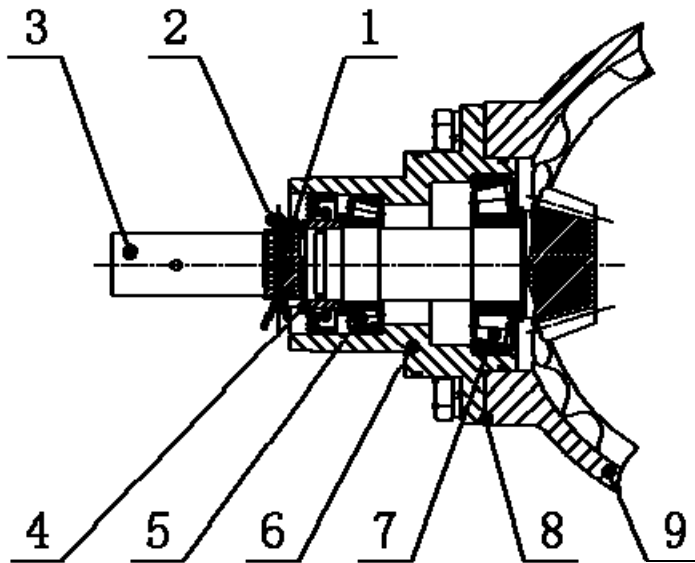
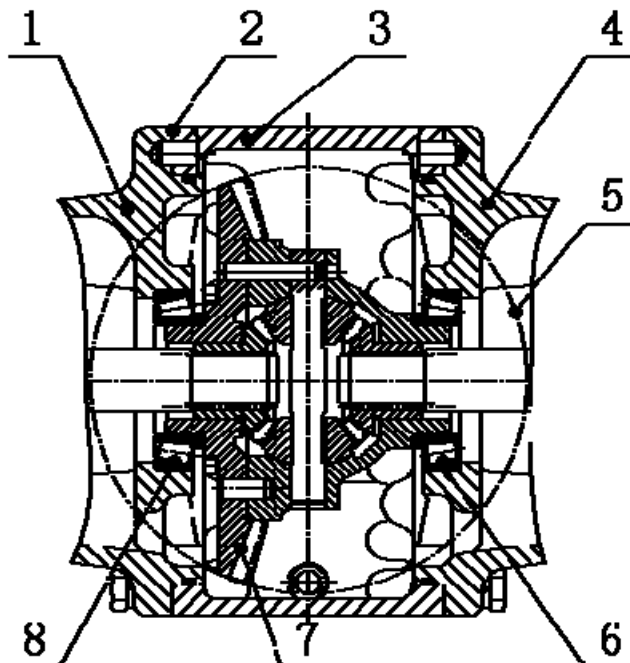

Fig.6-5
Fig.6-6
To insure the reliability of the front axle bevel transmission, assembled pinion and crown gears(see fig 6-5 and 6-6) should be a pair of match. And they should get to the proper mashing zone. During the usage, the gears must be adjusted when the bearings and gears abraded .
6.5.1 Adjustment of the pre-stress of the spiral bevel pinion bearings (See Fig. 6-5)
6.5.2 Adjustment of the pre-stress of Differential assemble bearings (See fig.6-6)
Make sure the clearance of the pinion and crown gears at the state-range. Only when the clearance is large enough, it should be adjusted. When adjusting, bring down the back seat, put a lead piece between the teeth of pinion and crown gears. The lead piece will be pushed to transform. Then measure the thickness of lead piece near the big end. The proper clearance changes from 0.16 to 0.32mm. Measure it for 3 times and at 3 point which equally at the circle. The difference between them should be less than 0.1mm. If it failed to reach the request, adjust the thickness of Shims for bearing seat 8 in fig.6-5 or Shims for main drive case 2 in fig. 6-6. At last, put all of the components on. If the clearance is too large, you can decrease the thickness of Shims for bearing seat 8 or Shims for main drive case 2, but it's important to note that you must move the Adjusting shim from one side to the opposite side, then the crown gear will be shifted towards the side where the Adjusting shim is added but the pre-stress of bearings will remain unchanged.